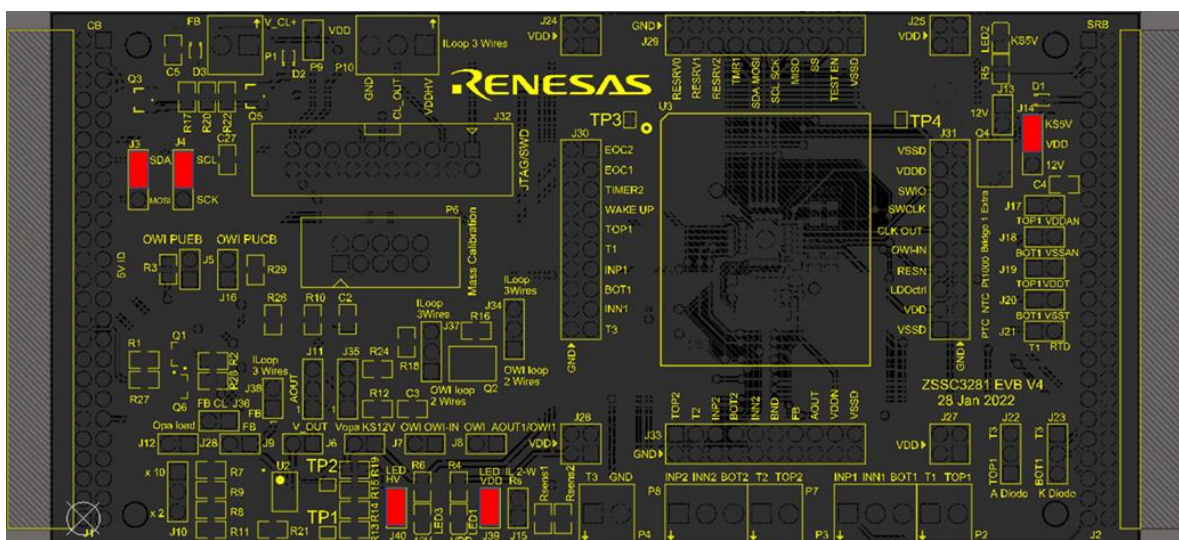
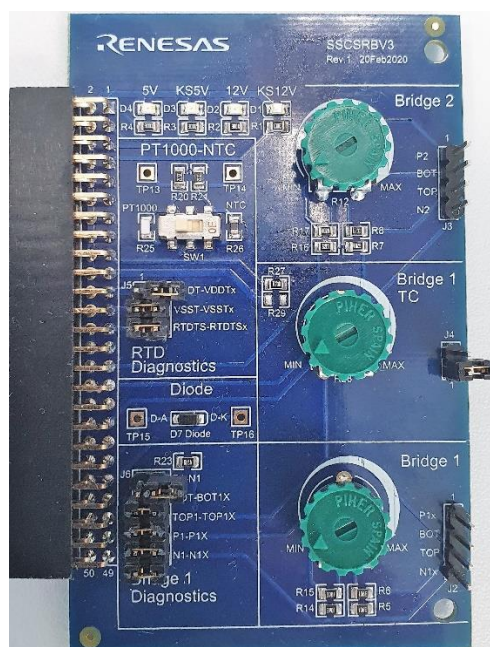

Figure 3. ZSSC3281 Evaluation Board V4 – Top View with Jumpers
Figure 4. Sensor Replacement Board V3.1
3. Replace the dummy IC in the socket with a ZSSC3281 device under test (DUT). Take care to place the pin 1 as shown on Figure 3 (dot on the silkscreen close to TP3).
Default jumpers positions on EVB and SRB are visible in Figure 3 (J3-J4-J8-J14) and Figure 4 (J5-J6-SW1) respectively.